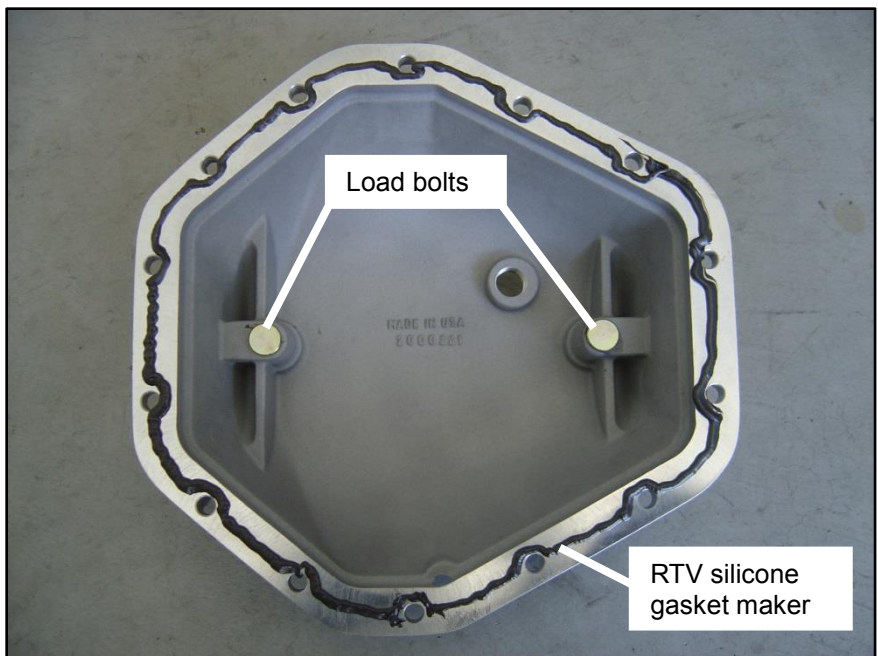

Figure 4
STEP 12. Apply a bead of RTV silicone gasket maker to the **B&M Cast Aluminum Rear End Cover**. Run the bead inside the bolt holes (See Figure 4).